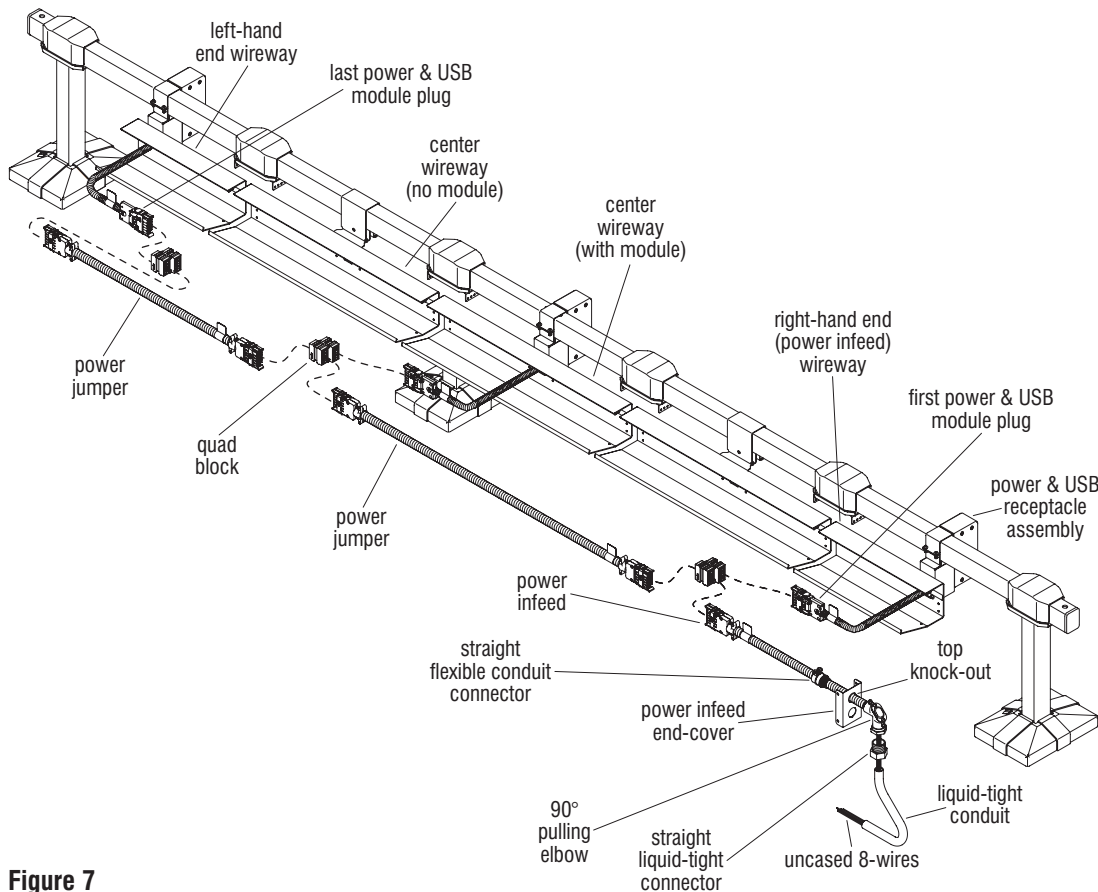
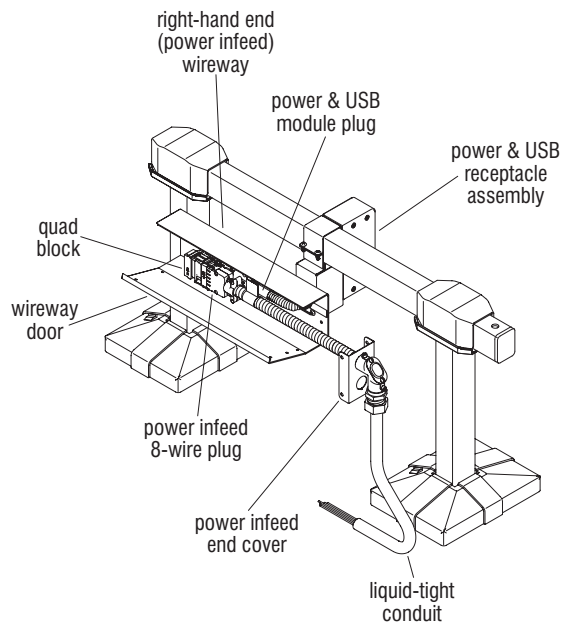

Figure 7
Figure 8
end-cover to the right- or left-hand end wireway where power will enter (right-hand shown). **Do not attach loose 8-wires to building power source until instructed to do so.** The power to each wireway must enter through the top knock-out of the power infeed end-cover. Orient the power infeed end-cover up to the power infeed wireway as illustrated and align to the end wireway mounting holes to determine the "top" knock out, then set aside for now (Figure 7).
18. As illustrated, feed the power infeed 8-wires through the straight flexible conduit connector, through the top knock-out in the power infeed end-cover, then through the 90° pulling elbow access hole. Twist the elbow onto the straight flexible conduit connector over the infeed end-cover, feed the trailing wires back in through the access hole and replace the access cover to the 90° pulling elbow. Measure and cut an appropriate length liquid-tight conduit, run the 8-wires through a straight liquid-tight connector, through the liquid-tight conduit and connect conduit and connector to the 90° pulling elbow (Figure 7).
19. At the power infeed wireway (right-hand end shown), attach the connector ends of both the power infeed and the first power & data module into a quad block. **Do not secure the power infeed end-cover onto the module until instructed to at a later time.** Per the space-planning layout, continue down the row of with module and no module wireway units, attaching module connector ends and quad blocks together until reaching the second-to-last module in the row (Figure 7).
20. At the end of the row, use an appropriate size power jumper and quad block to connect the last, and second to last module connector ends together into the electrical circuit (Figure 7).
21. When the space-planning layout calls for power infeed to a row of only one or two seats, the wireway used is a standard right-, or left-hand wireway (right-hand shown), and each being either long or short depending on seat spacing specified (Figure 8).
22. Follow steps 17 & 18 (Figure 7) page 7 to install power infeed, but do not secure the power infeed end-cover to the module and wireway door, or connect the 8-wires to the power source until instructed at a later time. Connect a quad block to the power & USB module connector end and the power infeed 8-wire connector as illustrated (Figure 8).